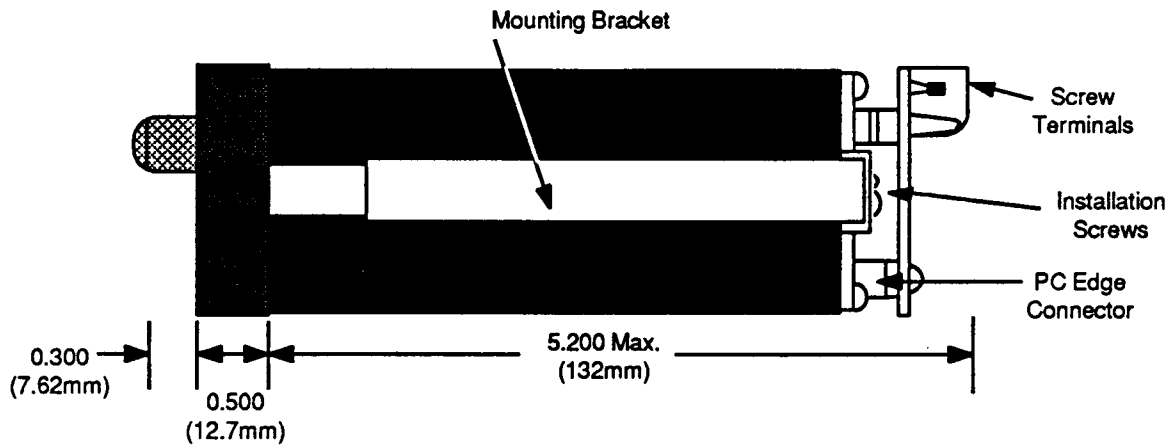
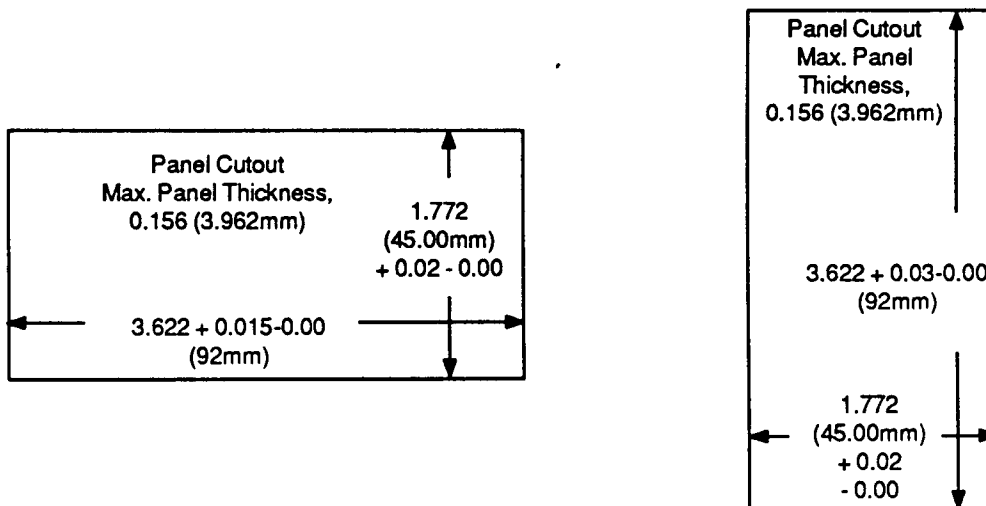
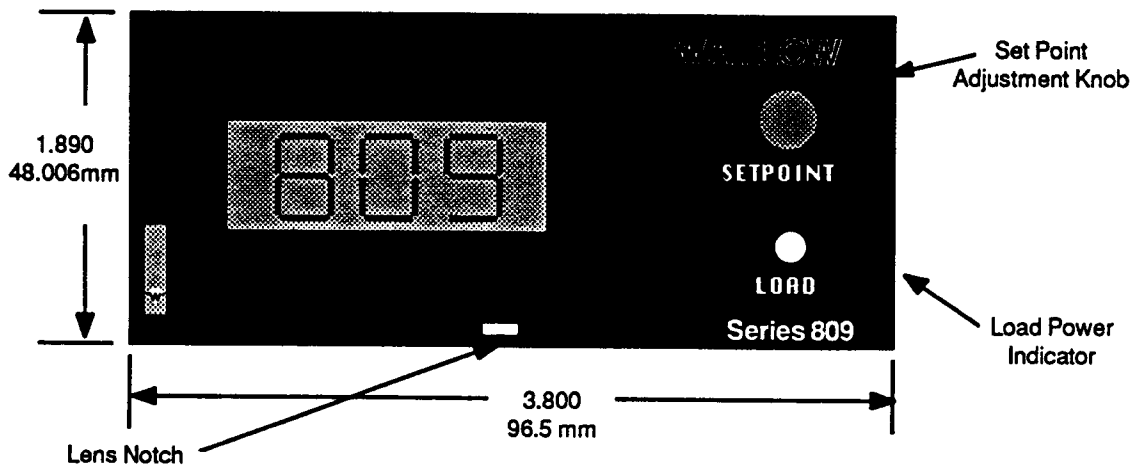

Figure 1 - Case Dimensions
Figure 2 - Series 809 and 811 Panel Cutouts
Figure 3 - Horizontal Front Panel Dimensions
Figure 1 shows the standard case dimensions and Figure 2 shows the panel cutouts for mounting your particular control. Figures 3 and 4 on Page 4 show the front panel dimensions, and Figures 5 and 6 on Page 5 are wiring diagrams.
1. To install, turn the installation screws out to the edge of the PC edge connector. See Figure 1.
2. Carefully insert the unit into the panel cutout. See Figure 2.
5. To remove the unit from its enclosure, pop the lens out by inserting a small object into the lens notch and prying up. See Figures 3 or 4 on Page 4.